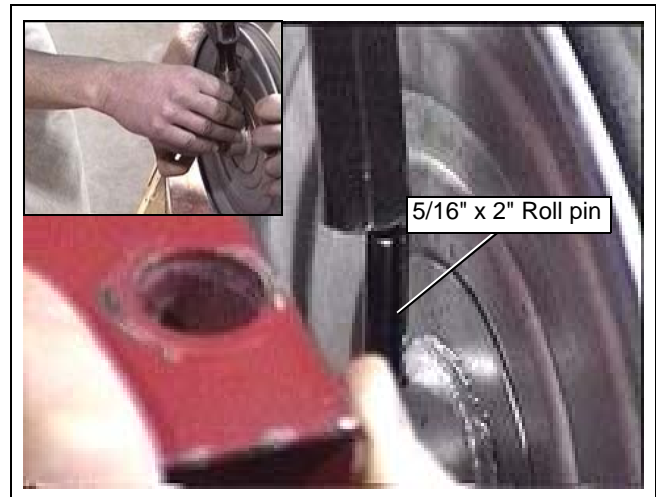

Figure 5H
**NOTE:** It may be necessary to pre-start the roll pin. The pulley is separate from the shaft as seen in Figure 5H corner picture.